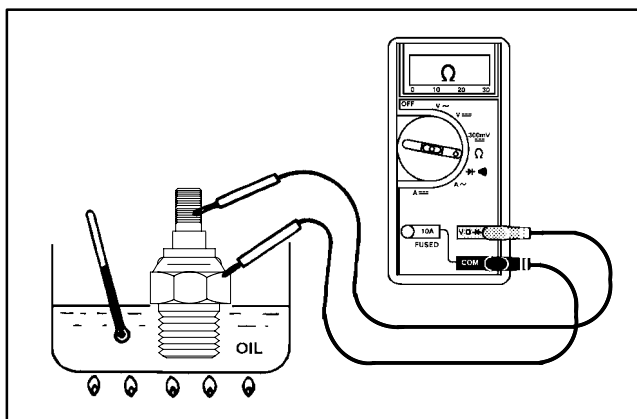

Figure 42
2. Put sender in a container of oil with a thermometer and slowly heat the oil (Fig. 42).